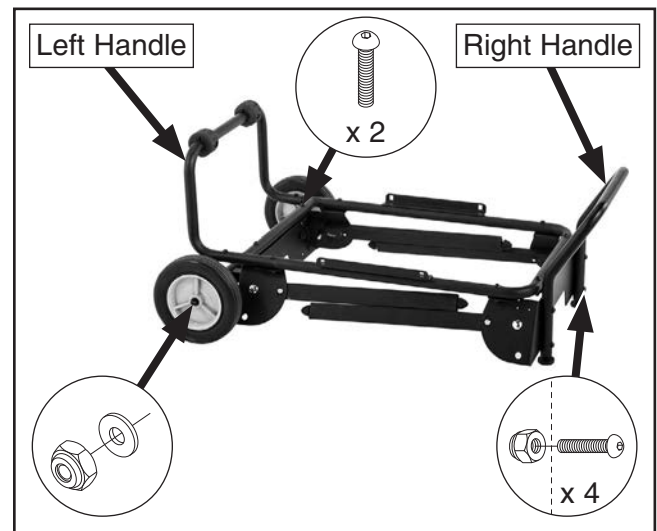

Figure 2. Model G0871 assembly.
1. Attach each wheel to axle with (1) 8mm flat washer and (1) M8-1.25 lock nut (see **Figure 2**).
2. Attach left handle to stand body with (2) M8-1.25 x 16 button head cap screws (see **Figure 2**).
3. Attach right handle to stand body with (4) M8-1.25 x 40 button head cap screws and (4) M8-1.25 lock nuts (see **Figure 2**).